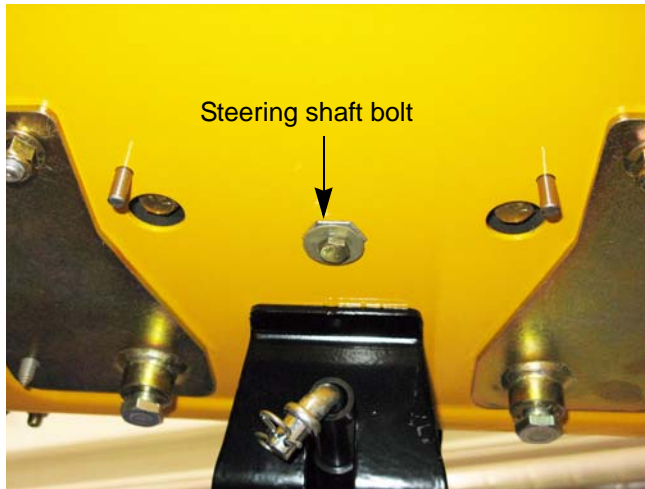

Figure 4.37
3. Remove the steering shaft bolt from the bottom of the steering shaft using a 7/16" wrench. See Figure 4.37.